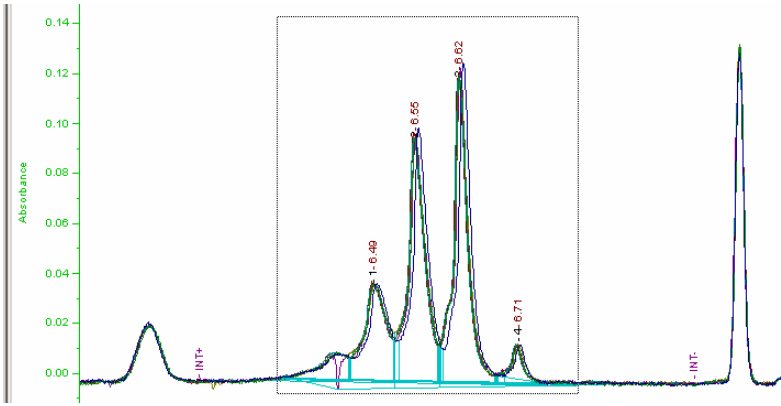
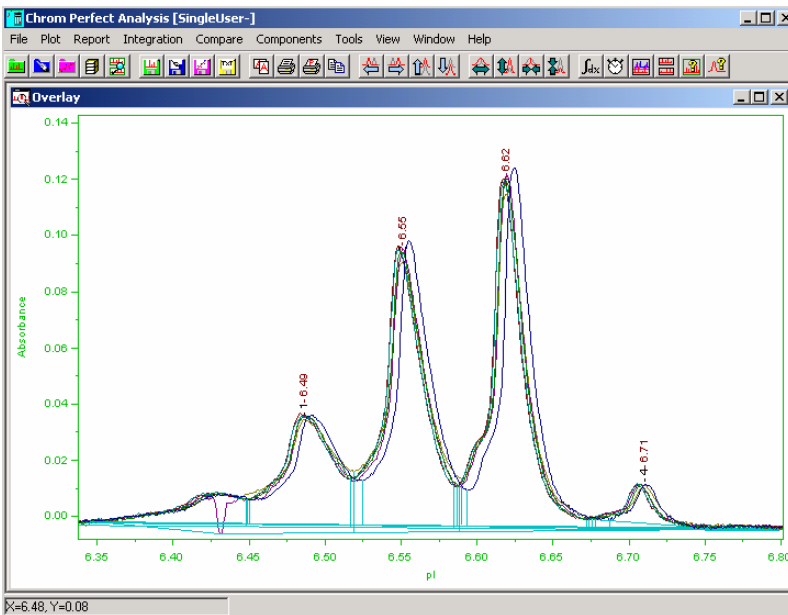

Figure A-51: Expanding Scale—Example A
Figure A-52: Expanding Scale—Example B
4. As shown in Figure A-51 and Figure A-52, use the mouse to draw a box on the sample peaks and right-click on the mouse to expand the scale of the display.